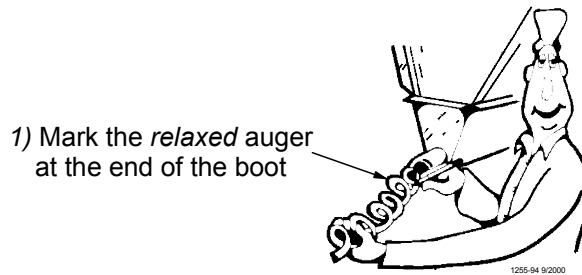

Figure 41. Measure the Auger from the relaxed position
10. Pull the auger at the boot end until it begins stretching. Then let it relax. In the *relaxed* position, mark the auger at the end of the boot. See **Figure 41**.